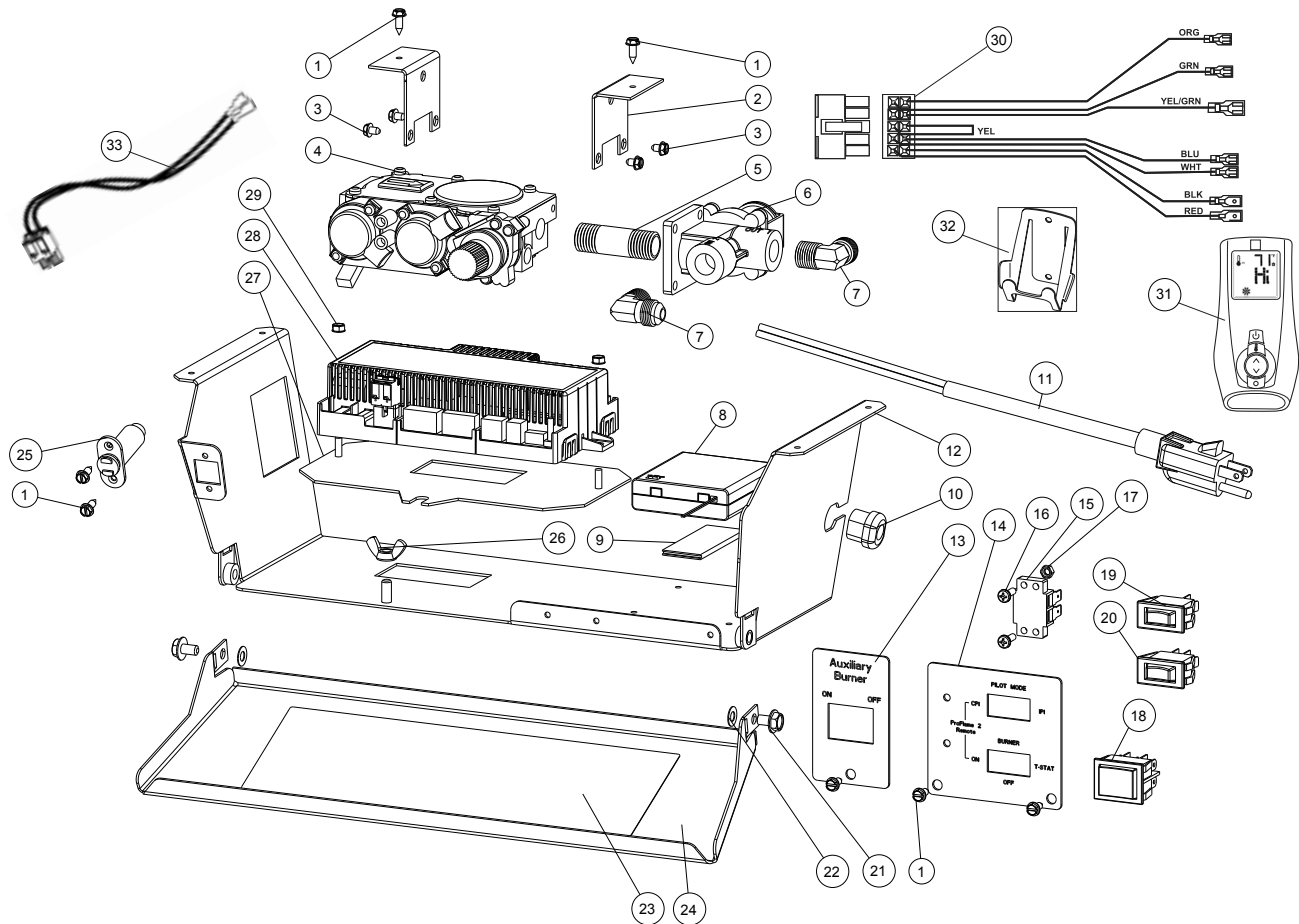

Figure 18.3.
2. Access the battery box from behind the right side of the control compartment. See fig.18.3, pg. 38. Disengage it from the hook & loop tape.